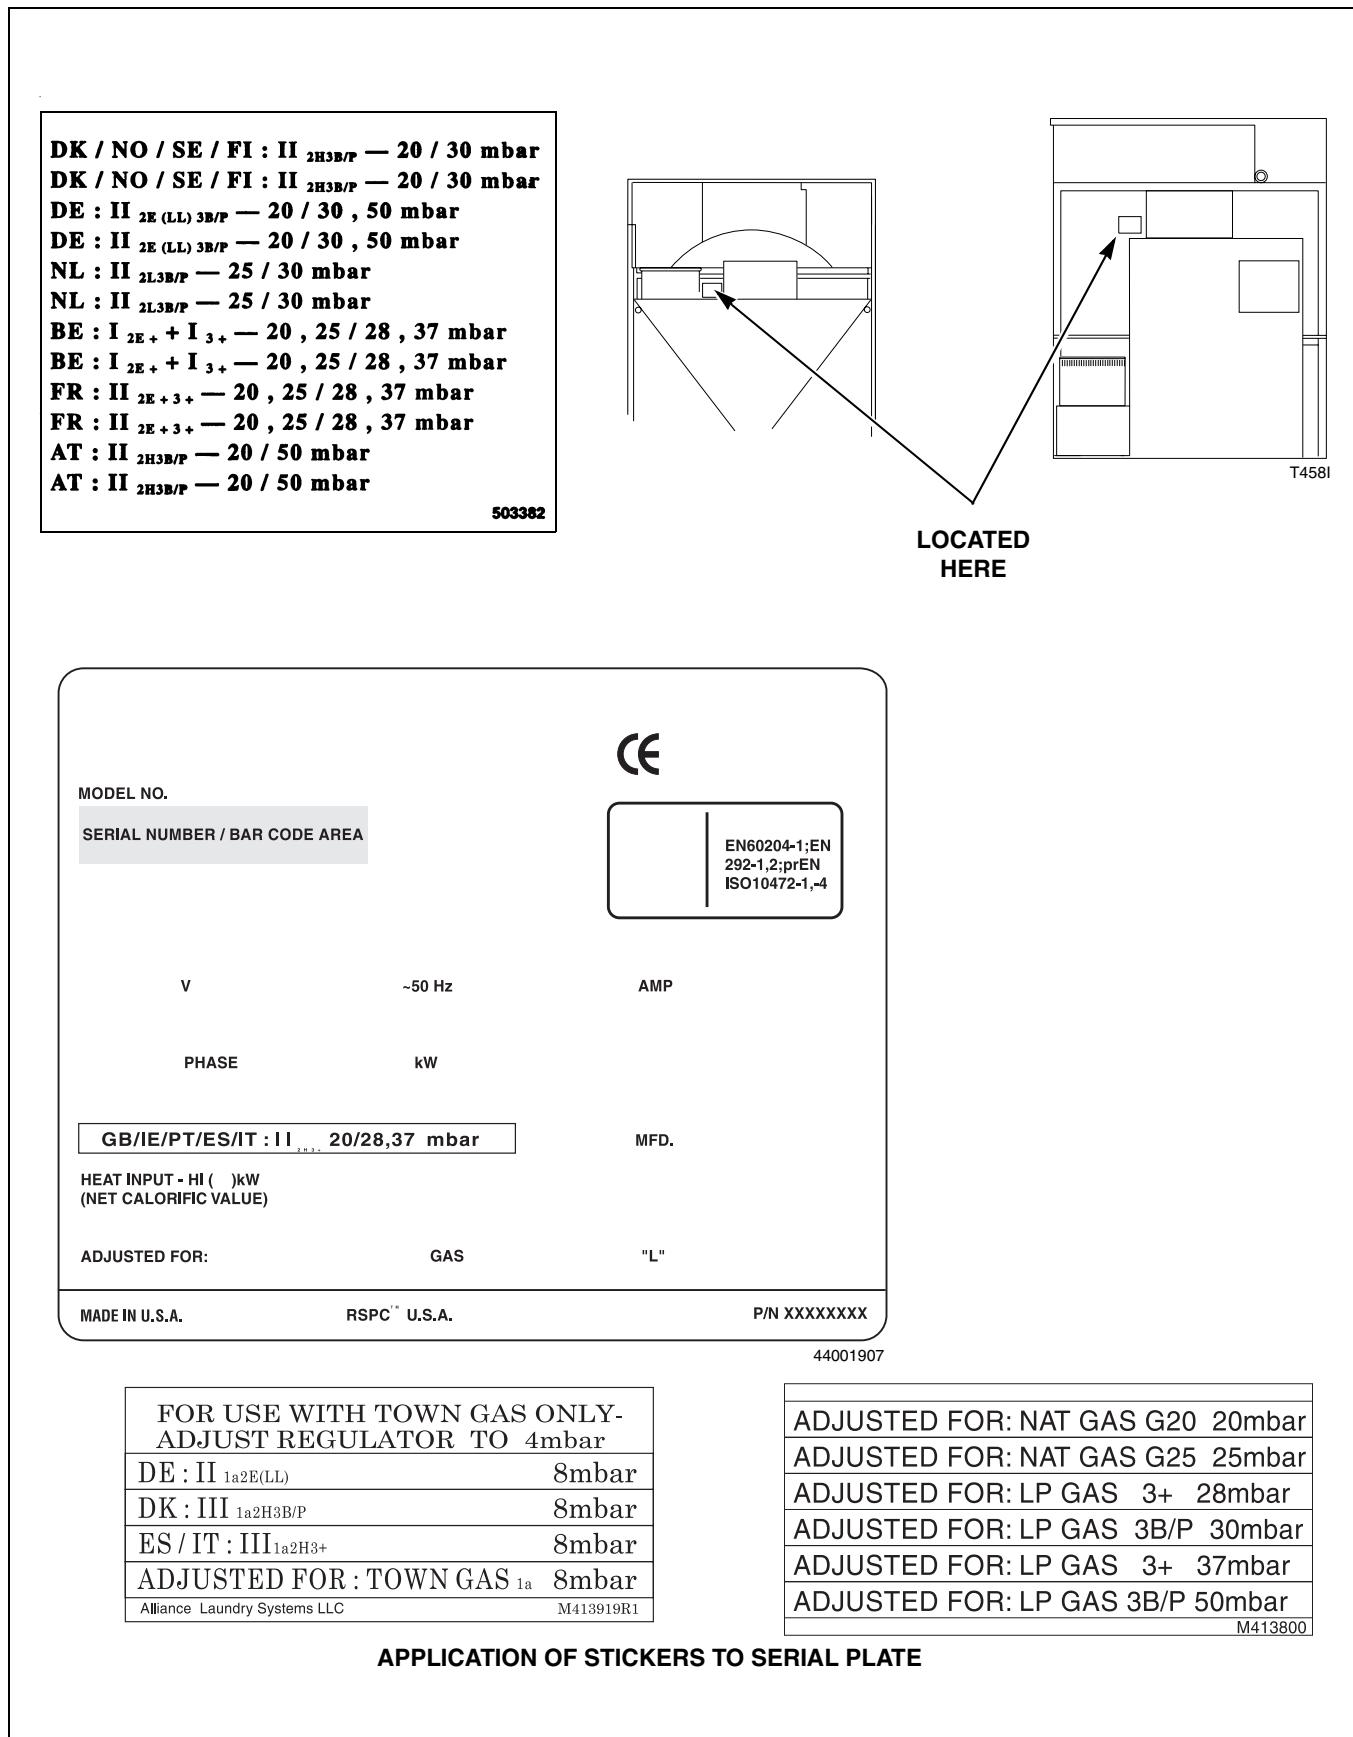

Figure 7
3. If applicable, peel off the appropriate country sticker from Part No. 503382 (included with machine) and apply it to the serial plate over the existing country information. Refer to *Figure 7*.
4. If applicable, peel off the appropriate conversion sticker from Part No. M413800 (included with machine) and apply it to the serial plate over the "ADJUSTED FOR \_\_\_\_\_ GAS: \_\_\_\_\_" information. Refer to *Figure 7*.